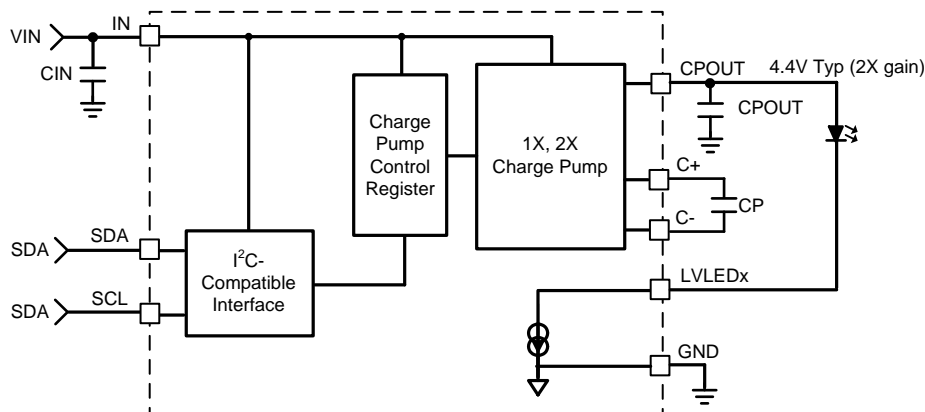

Figure 18. Integrated Charge Pump
The LM3633 features an integrated (2X/1X) charge pump capable of supplying LVLED1 to LVLED6 current. The fixed 1-MHz switching frequency allows for use of tiny 1- μ F ceramic flying capacitors (CP) and output capacitor (CPOUT). The charge pump can supply the power for the low-voltage LEDs connected to LVLED1 to LVLED6 and can operate in 4 different modes: disabled, automatic gain, 1X gain, or 2X gain (see Figure 18).